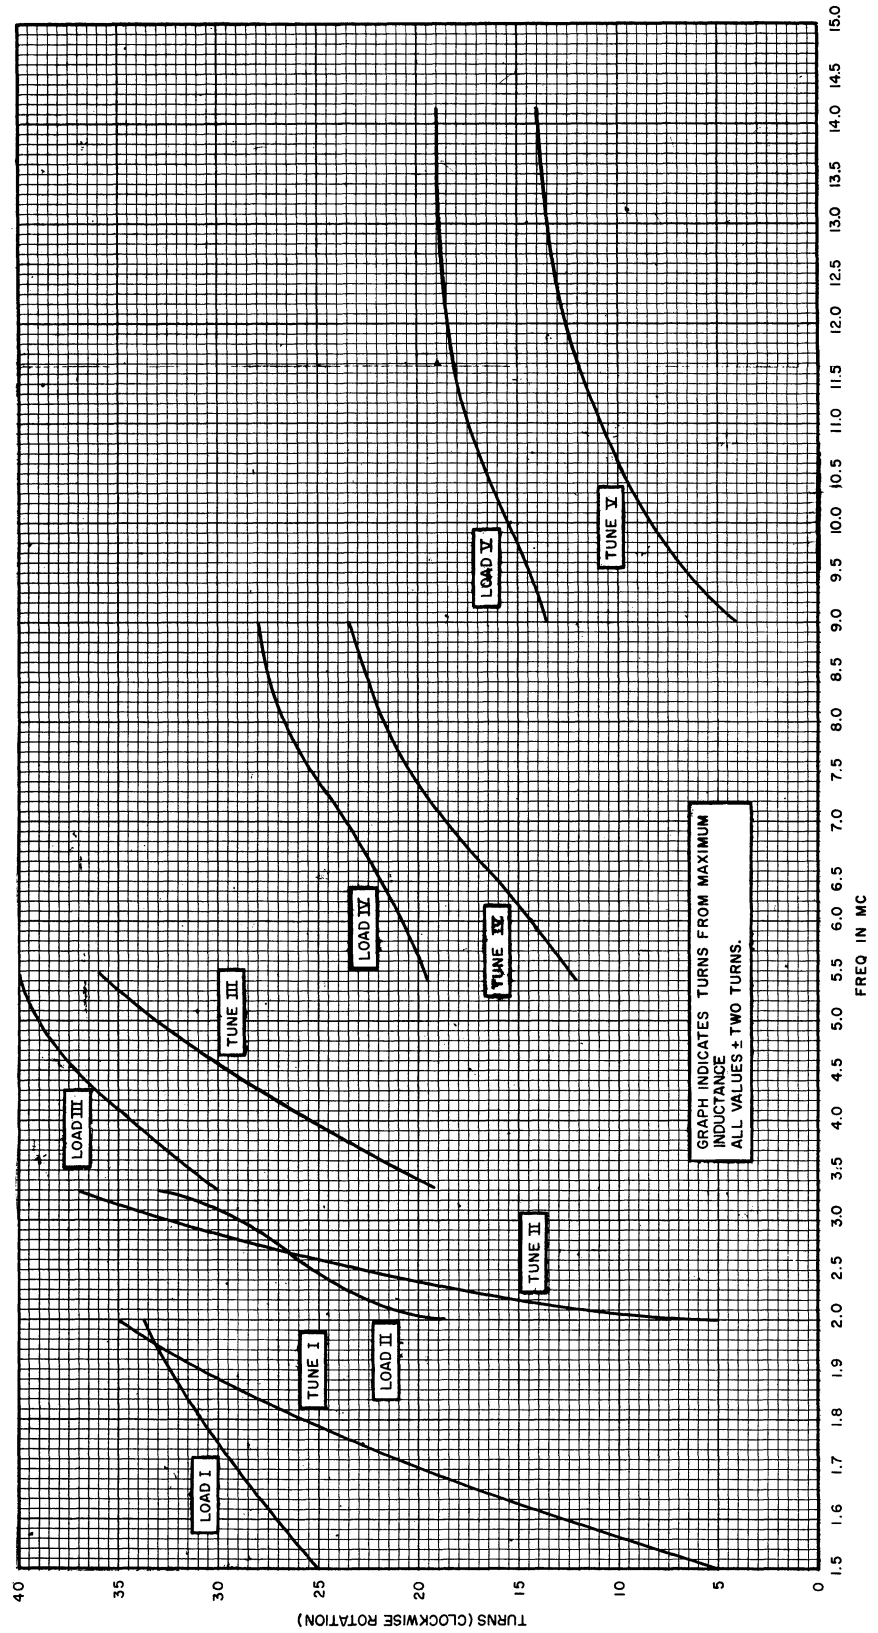

Figure 2-5. Calibration Curves for PA Coils
h. Refer to figure 2-5 for approximate PA coil settings for a 52-ohm resistive antenna. Adjust the TUNE coil in the appropriate PA tank coil assembly in a clockwise direction until PA cathode current dips. Adjust for current minimum.